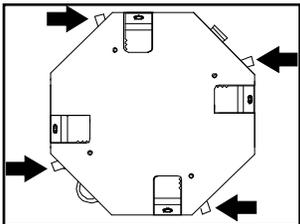

Fig. 2: Unlock pawls
6. Unlock pawls to pull out ratchet brackets (Fig. 2). Then push in the 4 ratchet brackets on head assembly firmly to contact sides of transmission.